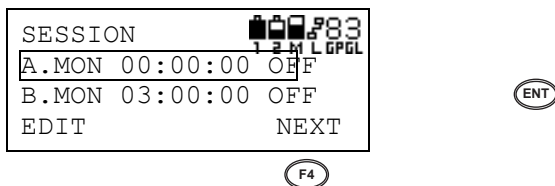

Figure 3-115. Select Session and Press Enter
2. Select the desired session, A, B or C, and press **ENT** (Figure 3-115). Press **F4** (NEXT) to see other sessions.